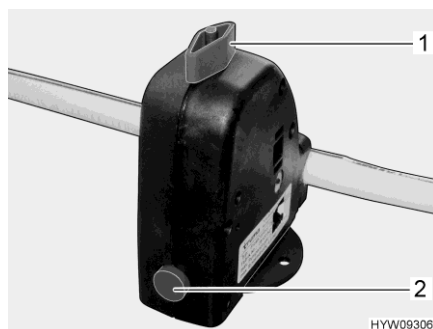

Fig. 156 Safety/drainage valve
The boiler is equipped with a safety/drainage valve (Fig. 156). The safety/drainage valve prevents water in the boiler from freezing, when there is frost and the heater is not switched on.
- Close the safety/drainage valve. Turn the knob (Fig. 156,1) perpendicular to the safety/drainage valve and push the push button (Fig. 156,2) in.
- Open the safety/drainage valve. To do this turn the knob (Fig. 156,1) parallel to the safety/drainage valve. The push button (Fig. 156,2) jumps out. The boiler is drained to the outside by the safety/drainage valve.